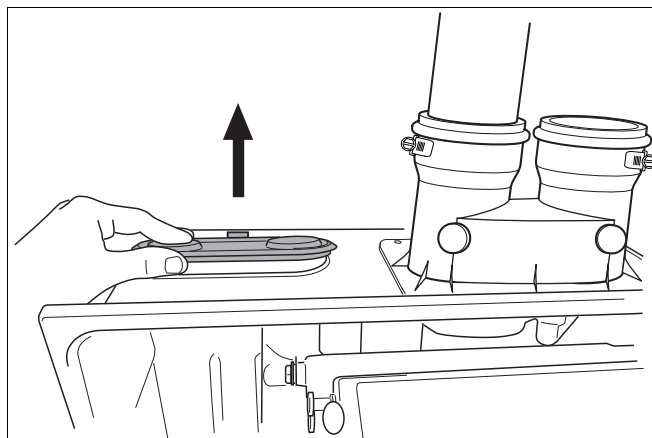

fig. 70 Removing the plastic cover of the automatic air purging system
- Remove the plastic cover from the top of the boiler (see fig. 70).